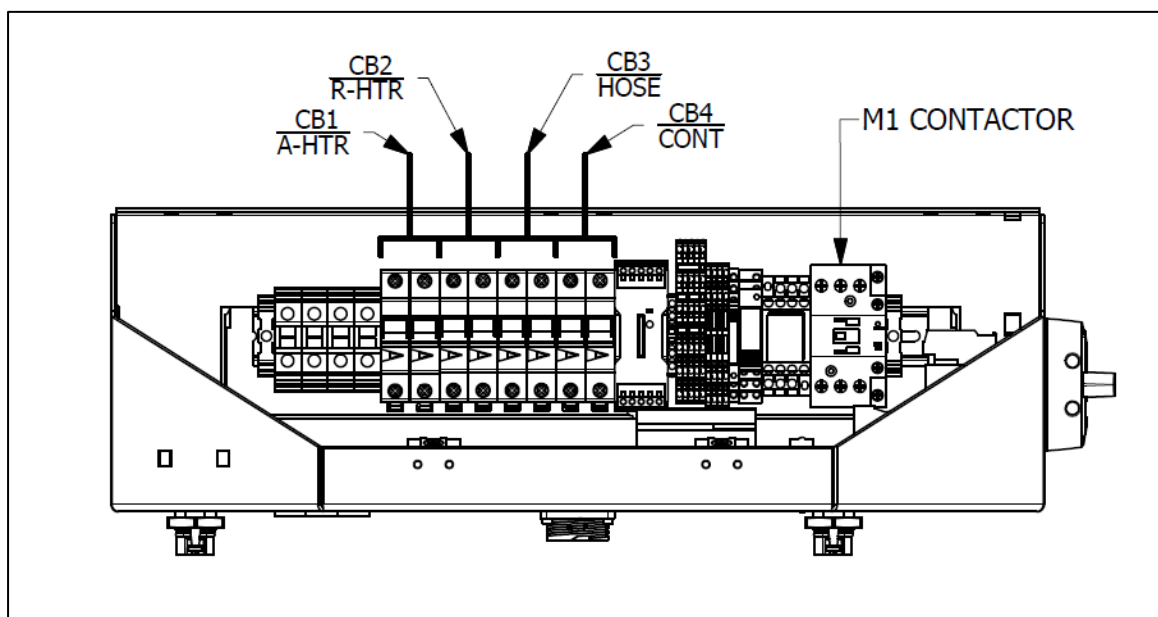

Figure 20: PF(X)-1600 Breaker Locations, Main Console
4. Check the heater breaker, CB1 or CB2, (see Figure 20 on page 38) in the main console and reset the breaker. If it continues to trip, wrap an Amp Clamp around one of the wires coming off the breaker. If the Amperage reading does not exceed the rating of the breaker (see Table 14 on page 38), the breaker needs to be replaced. If the breaker draws more than its rating the most likely cause is that one or more of the fire rods located in the heater is shorted.
7. Check the M1 Contactor (see Figure 20 on page 38) to ensure it is activated. If not, inspect the M1 Contactor for failure.
4. Check the Hose Heat breaker, CB3, (see Figure 20 on page 38) in the main console and reset the breaker. If it continues to trip, wrap an Amp Clamp around one of the